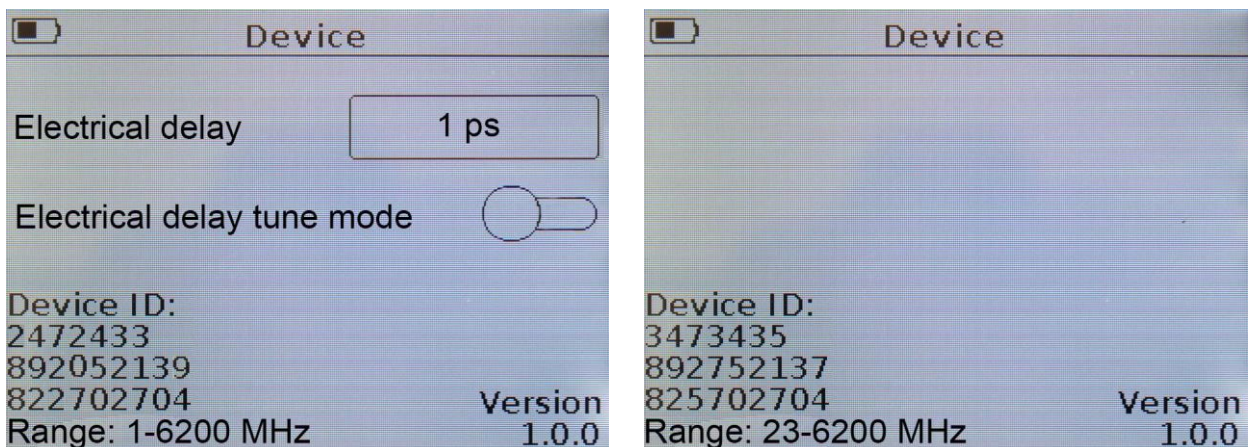

Figure 9.19 – Device Information in the Device menu ARINST VR 1-6200 and ARINST VR 23-6200
9.7.1. To enter the device information menu, enter the main menu of the device by pressing the **“MENU”** button (12) (Figure 9.1) and select the **Device** section. The screen will display information about the device, as in Figure 9.19.